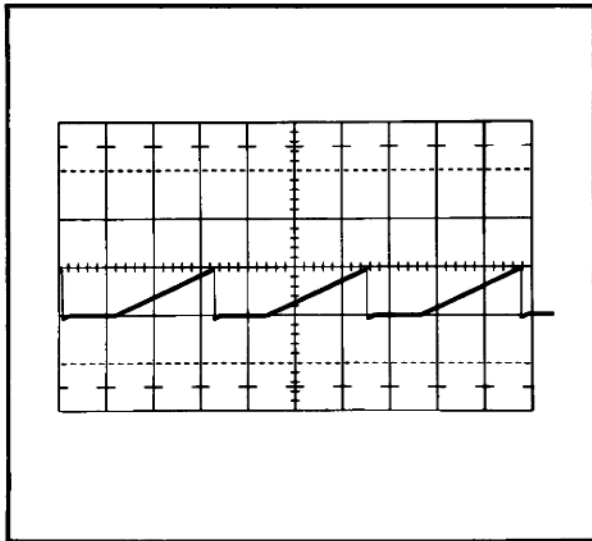

Fig. 5-9. Typical test oscilloscope display when checking sawtooth output.
f. CHECK—Test oscilloscope display for about three cycles of the sawtooth signal and a vertical deflection of one division, ± 0.1 division; see Fig. 5-9 (0.05 milliamp/division, $\pm 10\%$, output from Type 3B5).